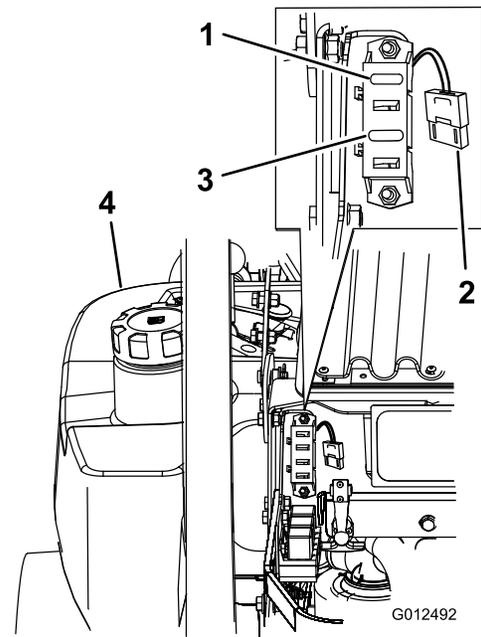

Figure 58
1. Unlatch the engine hood and raise the engine hood to gain access to fuse holder (Figure 58).
3. Install a new fuse (Figure 58).